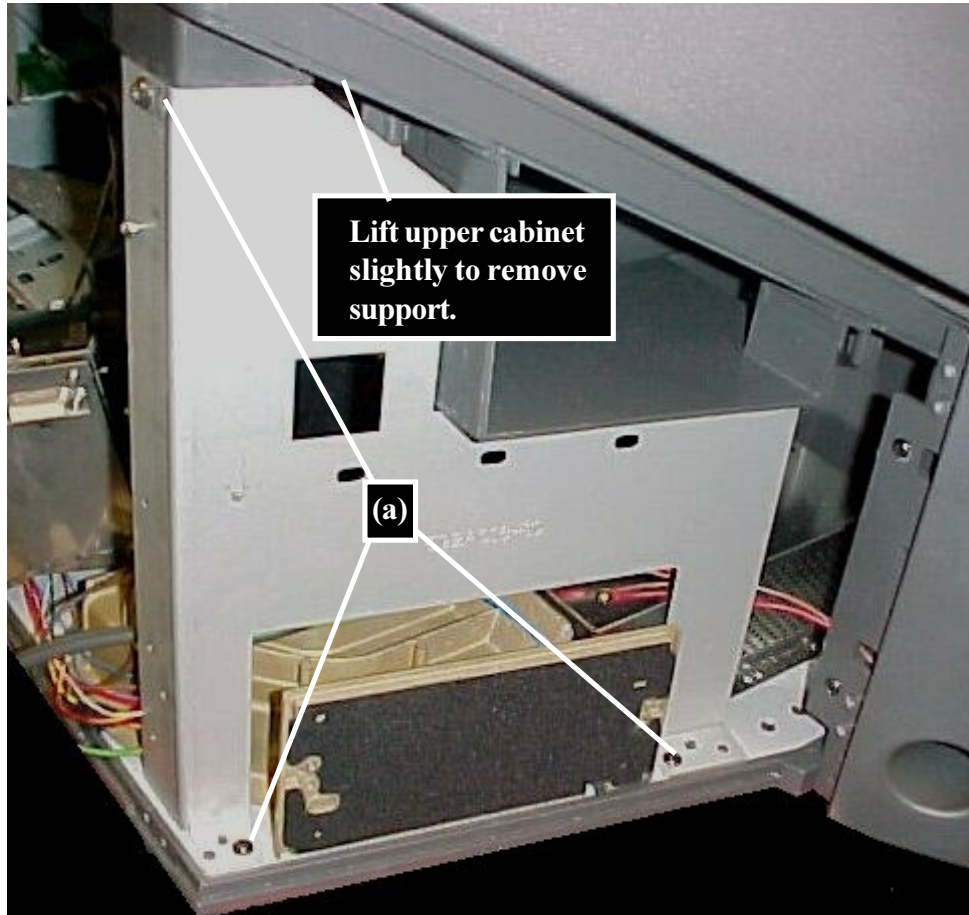

Figure 2-13: Rear Right Support Removal
- 1) Remove the 3 screws (a) holding the rear right support bracket, *Figure 2-13*.